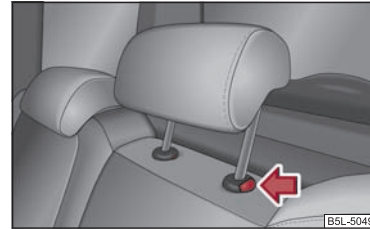

Fig. 59 Rear seats: middle head restraint
- Press the locking button in the direction of arrow ⇒ fig. 59 and pull the head restraint out.